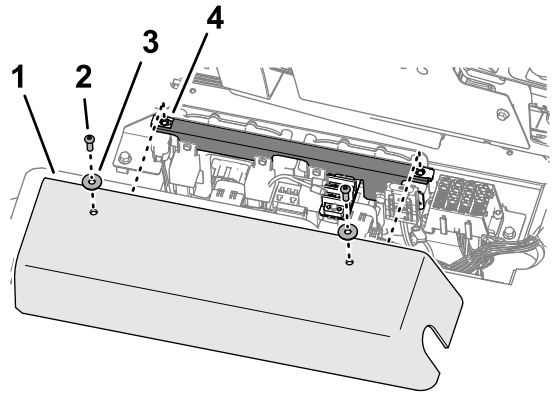

Figure 43
1. Align holes in the controller cover with clip nuts on the electrical-component mount (Figure 43).
2. Install the controller cover to the electrical-component mount (Figure 43) with the 2 socket-head screws and 2 washers that you removed in Removing the Electrical Cover (page 19).